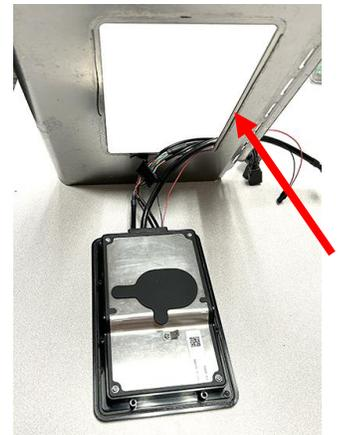

Figure 16
19. Lift up on the controller bezel and carefully remove the controller from the bezel noting the position of the harnesses (see Figure 16).